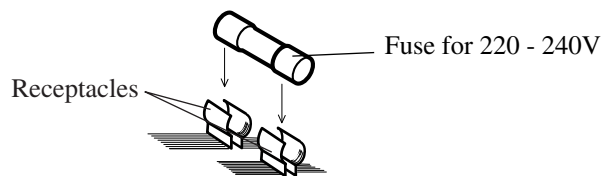

Fig. 13
(4) Replacing fuse for 220 - 240V (See Fig. 13)